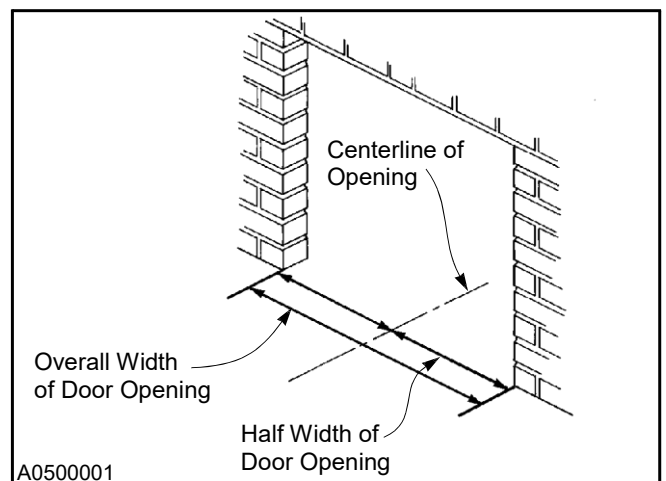

Figure 7
2. Divide the measurement in half to locate the centerline. Then mark the centerline along the floor. (See Figure 7)